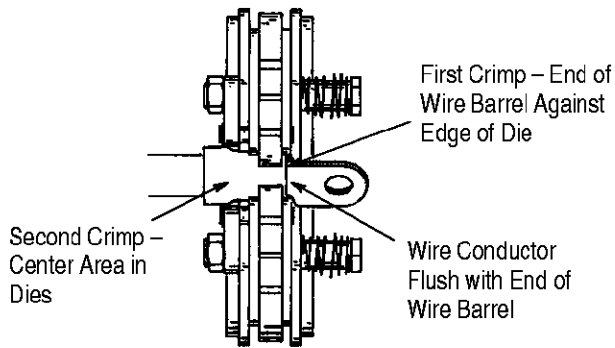

Figure 4
3.4. Dual Crimp for Terminals and Parallel Splices with Wire Size 1/0 AWG (Figure 4)